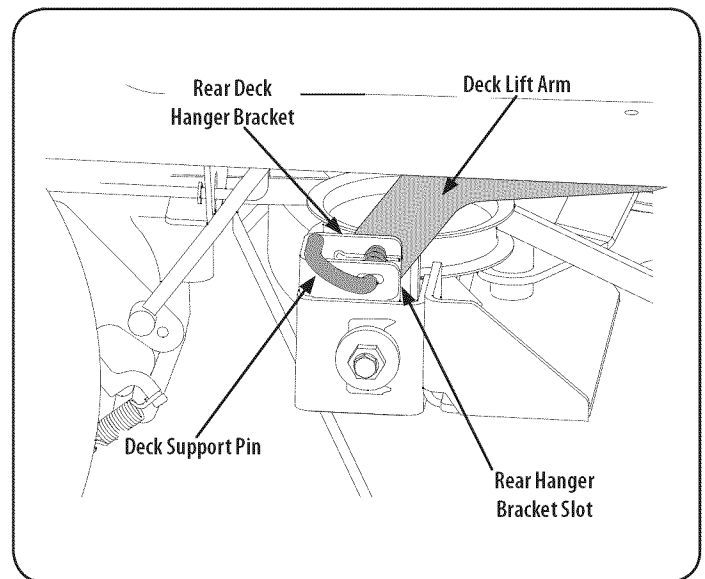

Figure 42
- Remove the hex washer screws securing the belt covers to the deck and remove the belt from the spindle pulleys. Refer to Figure 42.